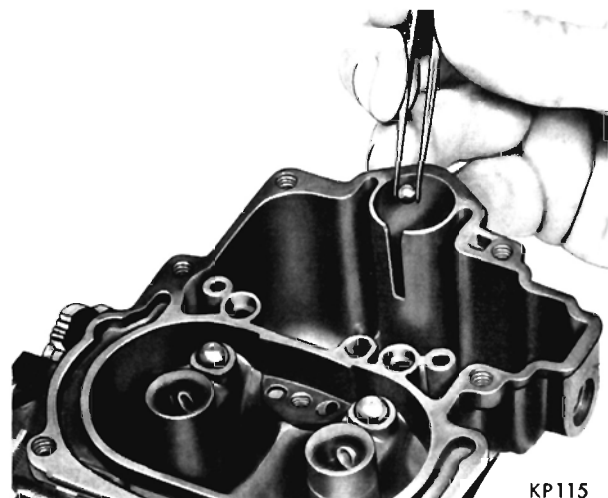

Fig. 10—Installing Accelerator Pump Check Ball
(6) Install the accelerator pump inlet check ball ($3/16$ inch diameter) in the check ball seat at the bottom of the pump cylinder, as shown in (Fig. 10).